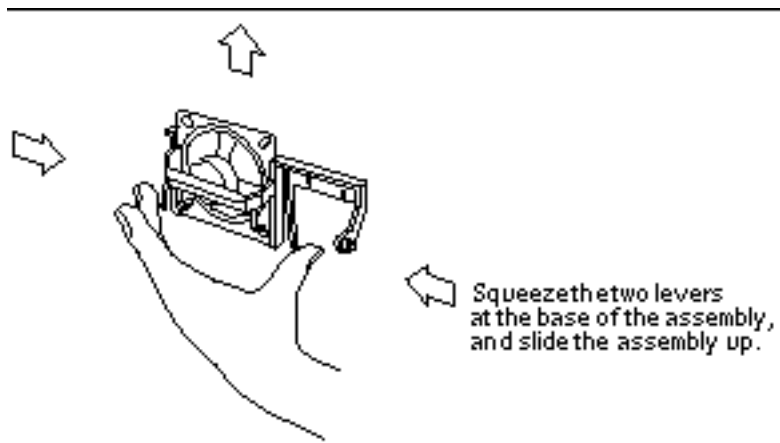

Figure 8-5 Raising the Speaker/LED Assembly
2. Raise the speaker assembly to allow removal of the main logic board (see Figure 8-5).